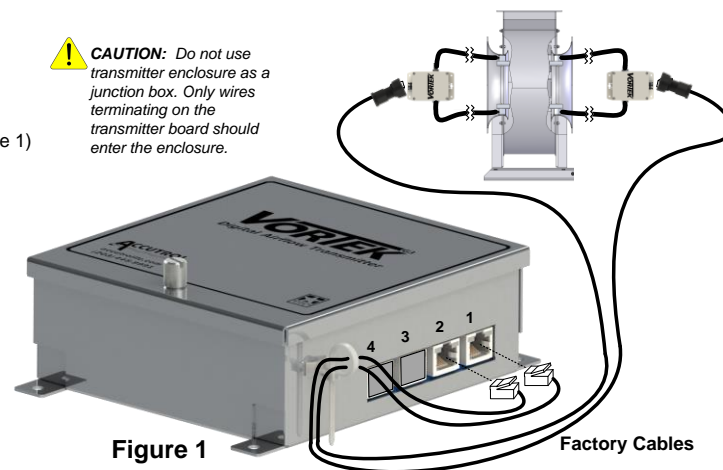

Figure 1
2. Using the four 0.20" diameter holes located on the transmitter enclosure, secure the transmitter to mounting surface using (4) #8 or #10 Pan Head Screws. For sheet metal mounting surface, use sheet metal or tek screws, for plywood surface use coarse thread wood screws, for drywall surface, use drywall anchors with the appropriate screws.
3. Connect each sensor to the corresponding sensor input channel on the transmitter using the cables provided (Reference Figure 1)